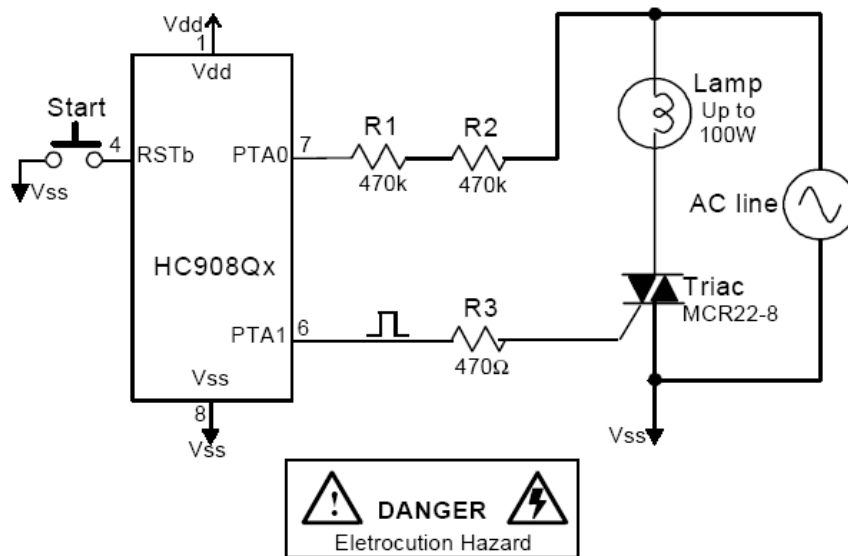

Figure 7. Lamp Timer with HC908Q Family
- Another practical application is to keep the load turned on for a certain amount of time. In this case, the load is supplied at full power and the triac is triggered at a desired time. Refer to Figure 7 for a schematic diagram of the timer.